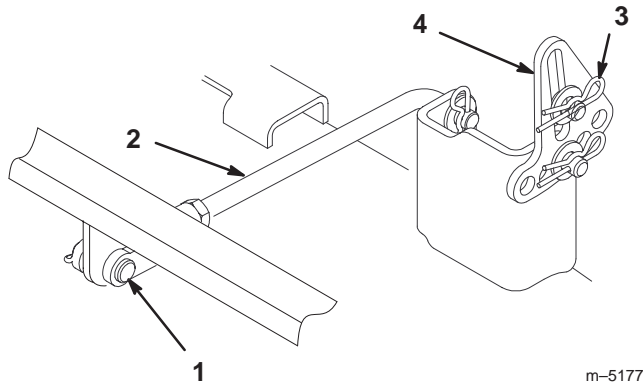

Figure 46
- Remove the hairpin cotter and clevis pin from the rear trunion rod (Fig. 46) on each side of the mower.
- Remove the hairpin cotter and washer at the mower leveling brackets (Fig. 46) on each side of the mower. Note which hole the leveling bracket is mounted in for future installation. Slide the brackets off of the mounting pin.
- Attach the rear trunion rod to the tractor with the clevis pin and hairpin cotter (Fig. 46) on each side of the mower.
- Slide the leveling brackets onto the mounting pins and secure them with the washers and hairpin cotters (Fig. 46).